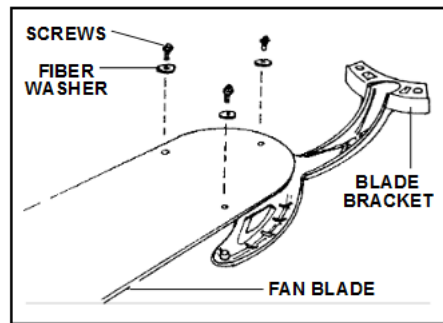

FIG. 15
Step 1. Attach the fan blade to the blade bracket using the screws provided. Tighten screws securely. Repeat for remaining blades. (Fig. 15)